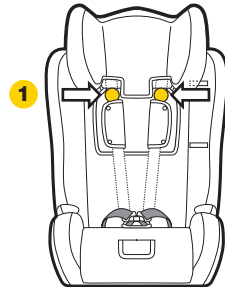

Figure 2
Step 1: Unclip the press studs location 1 (refer Figure 2).